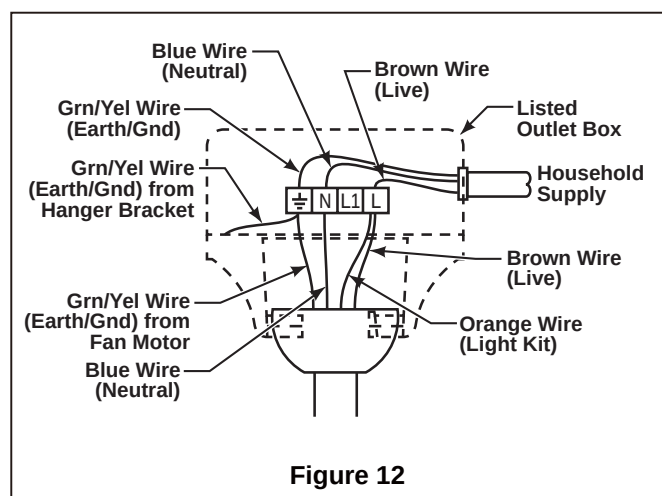

Figure 12
- ☐ 2. Securely connect the blue fan motor wire to the blue supply (neutral) wire using wire connector supplied. Securely connect the brown fan motor wire and orange wire to the live supply (normally black but marked as a live supply with red sleeving) (Figure 12). Make sure all connections are secure.